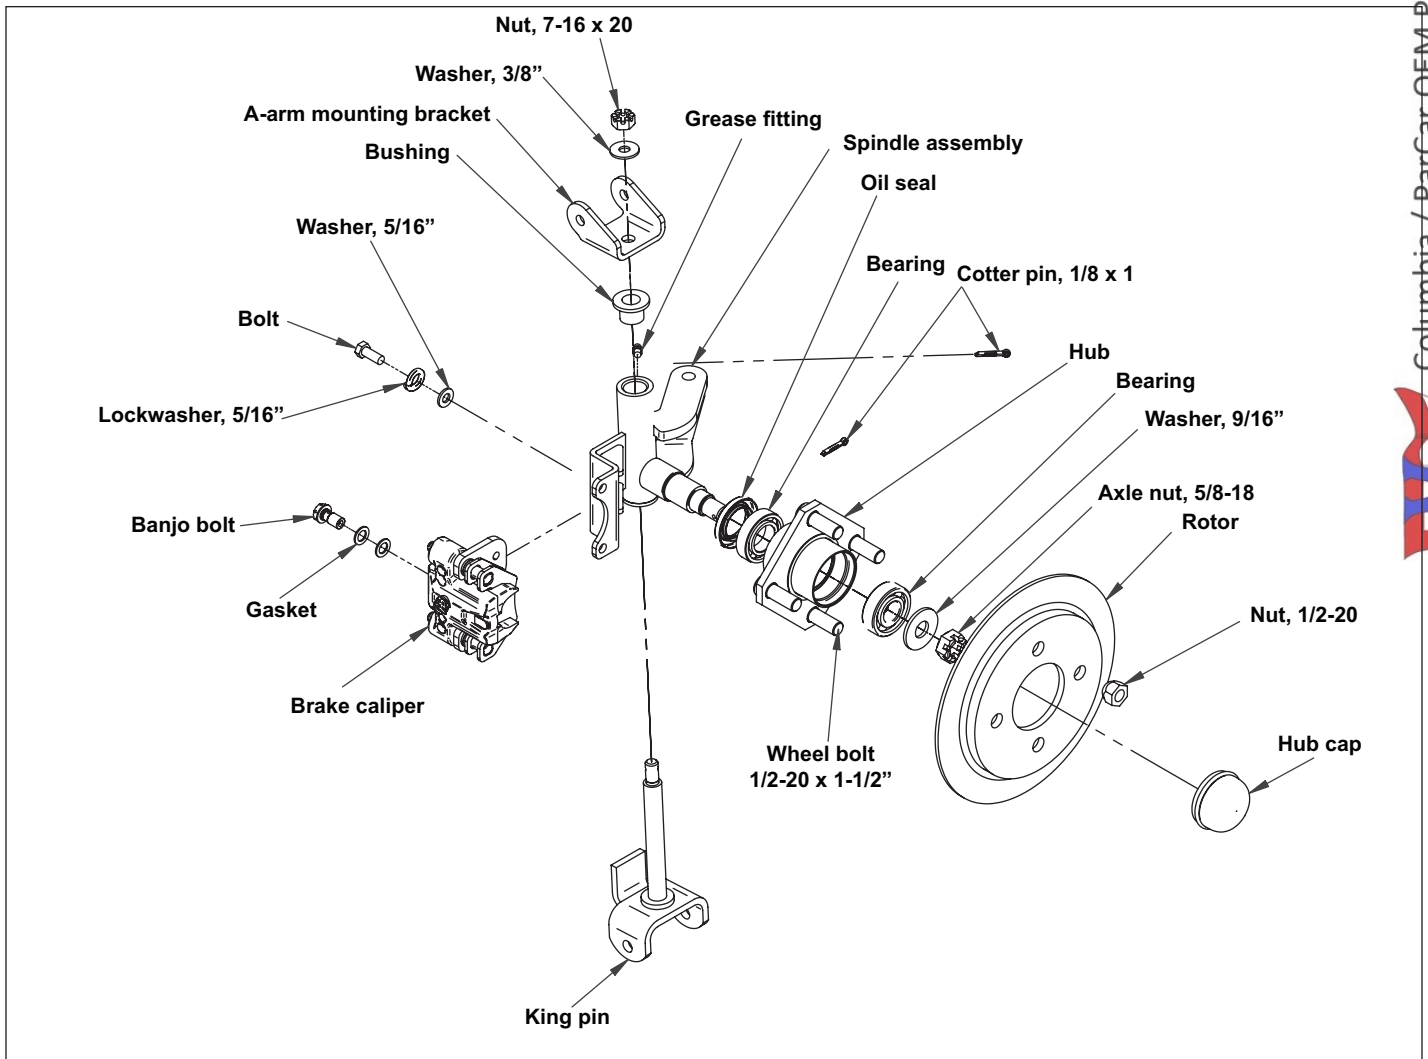

Figure 5-11. Hydraulic Front Disc Brake
4. Disengage the brakes and remove the upper brake caliper mounting bolt (Figure 5-11).
15. Rotate caliper with rotor centered in brake pads and install caliper upper mounting hardware (Figure 5-11).